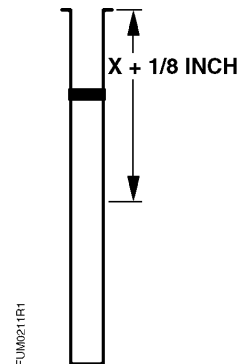

Figure 6. Marking Linkage Bend.
4. Measure from the upper end of the linkage to the value you obtained in Step 3. Use the permanent marker to mark this point on the linkage. See Figure 6.